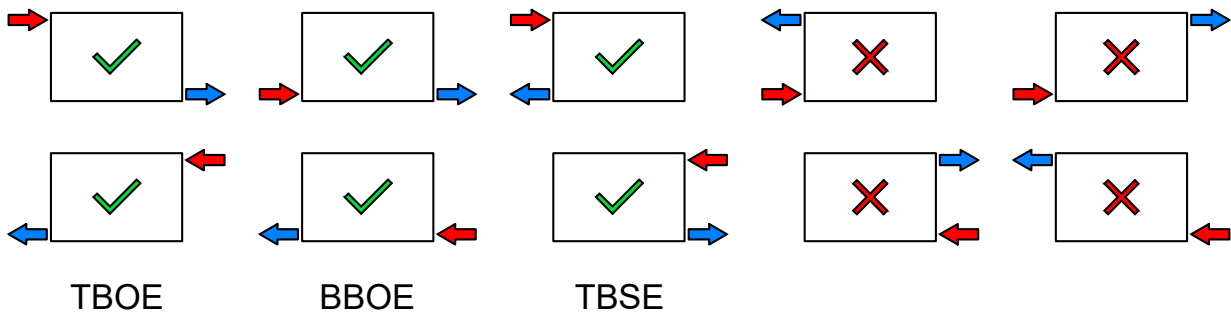

Figure 3-3: Pipe Connection Options
3. Identify which pipe connection option is being used (refer to Figure 3-3 and Section 3.4 for guidance) and identify the flow connection.
Grant Afinia radiators should be connected in one of three ways only. (Refer to Figure 3-3)